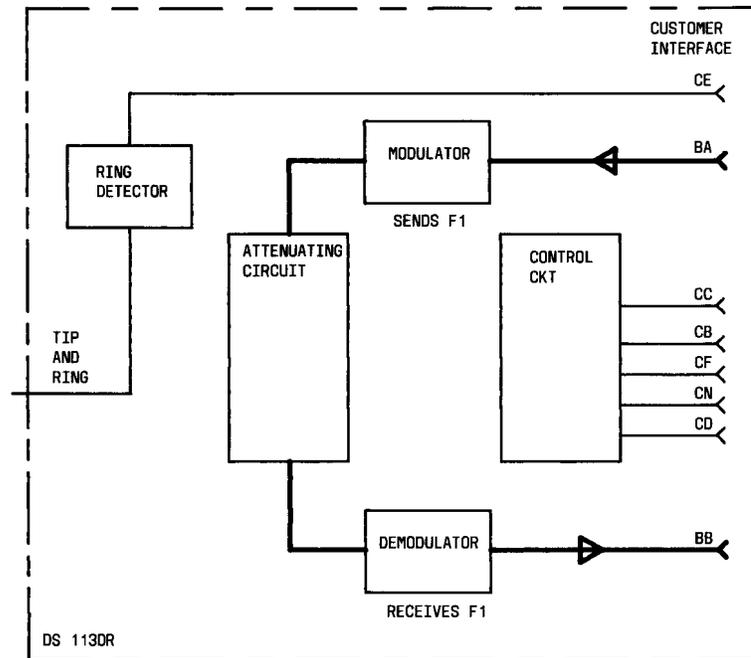

Fig. 1—Analog Loopback Test Mode
2.03 In the analog loopback test mode (Fig. 1), the data set is isolated from the telephone line, with the exception of the ring detector circuit. During this test the data set circuits are modified so that the transmitter and receiver operates in the fl mode. The output of the transmitter is looped via an attenuating circuit to the receiver.